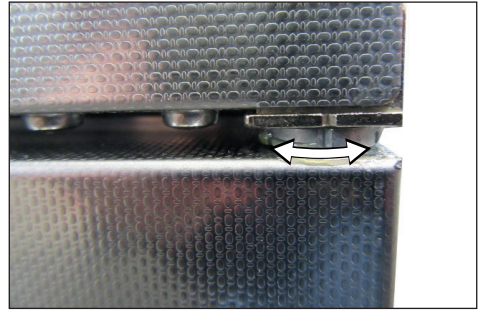

Fig. 18 Turn the collar of the bearing on the slot
2. Turn the door bearing (eccentric) clockwise or counter-clockwise with a slotted screwdriver as required (Fig. 18).